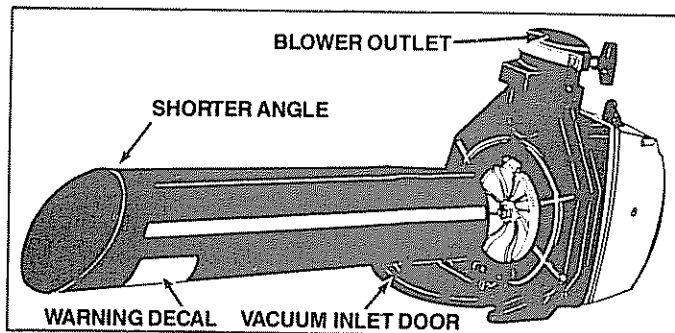

Figure 4
- Hold open the vacuum inlet door and slide the straight end of the suction tube into the opening until it bottoms out (about 3/4 inch). Figure 4.
NOTE: Make sure the warning decal and shorter angle of the suction tube is aligned with the blower outlet as shown in Figure 4.